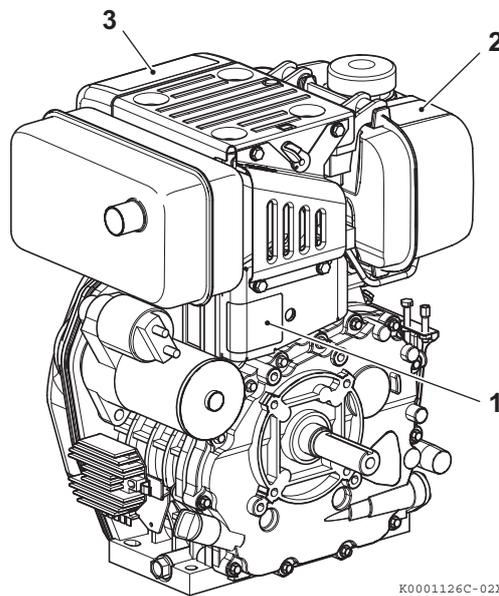

Figure 2
Figure 2 shows the location of labels on Yanmar L-N Series engines.
Typical location of the engine nameplate is shown (Figure 2, (1)).
Typical location of the caution label is shown (Figure 2, (2)).
Typical location of the air cleaner caution label is shown (Figure 2, (3)).